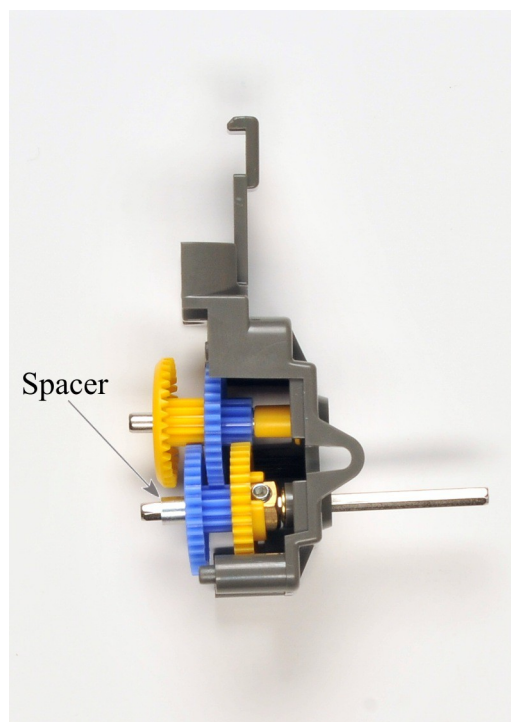

Figure 1.18
14. Place the crown gear on the smooth shaft such that the small diameter gear mates with the larger diameter gear of the second 2-step gear, as shown in figure 1.18.
15. Place one 4mm spacer onto the hex shaft, as shown in figure 1.18.